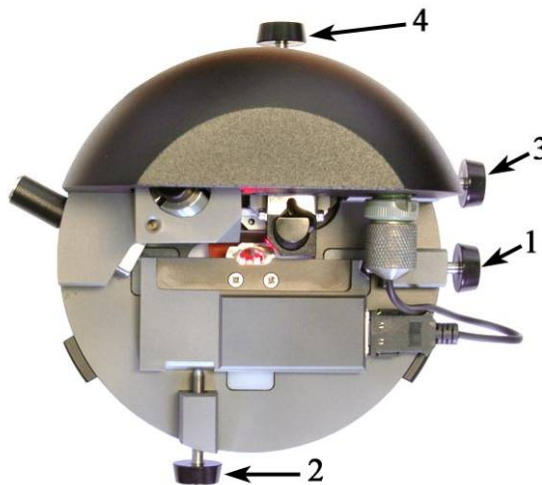

Fig. 2-19. Measuring head
5. Align the laser beam onto the cantilever using screws 1 and 2 (Fig. 2-19).